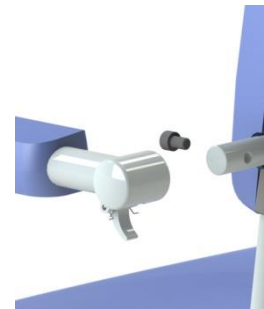

Figure 18 Bolt
- Fastly secure bolts. (See figure 18)